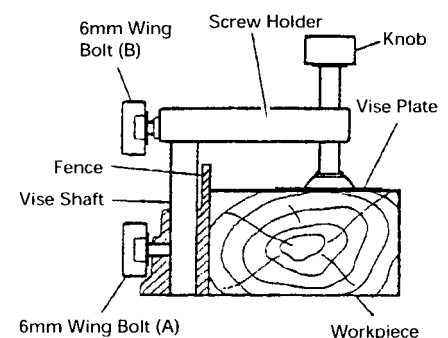

Fig. 34
- (1) The vise assembly can be mounted on either the left fence {fence (B)} or the right fence {fence (A)} by loosening 6 mm wing bolt (A).
- (2) The screw holder can be raised or lowered according to the height of the workpiece by loosening 6 mm wing bolt (B). After the adjustment, firmly tighten 6 mm wing bolt (B) and fix the screw holder.
- (3) Turn the upper knob and securely fix the workpiece in position (Fig. 34).